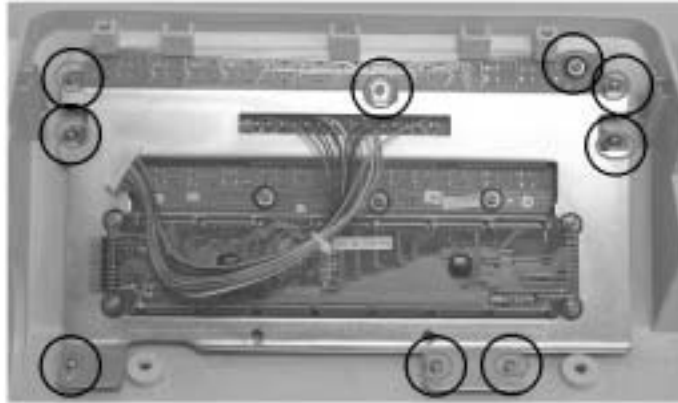

Figure 4-4. Display Assembly Screws
1. Remove the screws circled in Figure 4-4 which hold the display assembly in place.